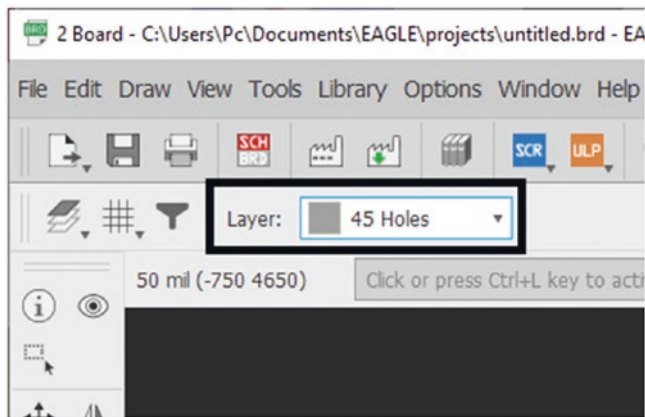

Figure 7-7. Select the “Holes” layer
- 5. Select the Holes layer. See Figure 7-7.